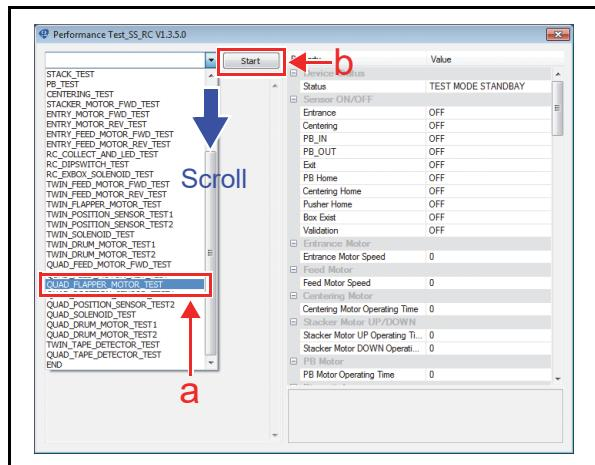

**Figure 6-56** Feed Motor Speed Reverse Rotation Test (RQ Transport) 2
5. The measured speed will appear in the “RC-Feed Motor (RC-Quad)” area (Figure 6-56 a) on the Screen.
7. Click the “Stop”  Screen Button (Figure 6-56 b) to end the test.